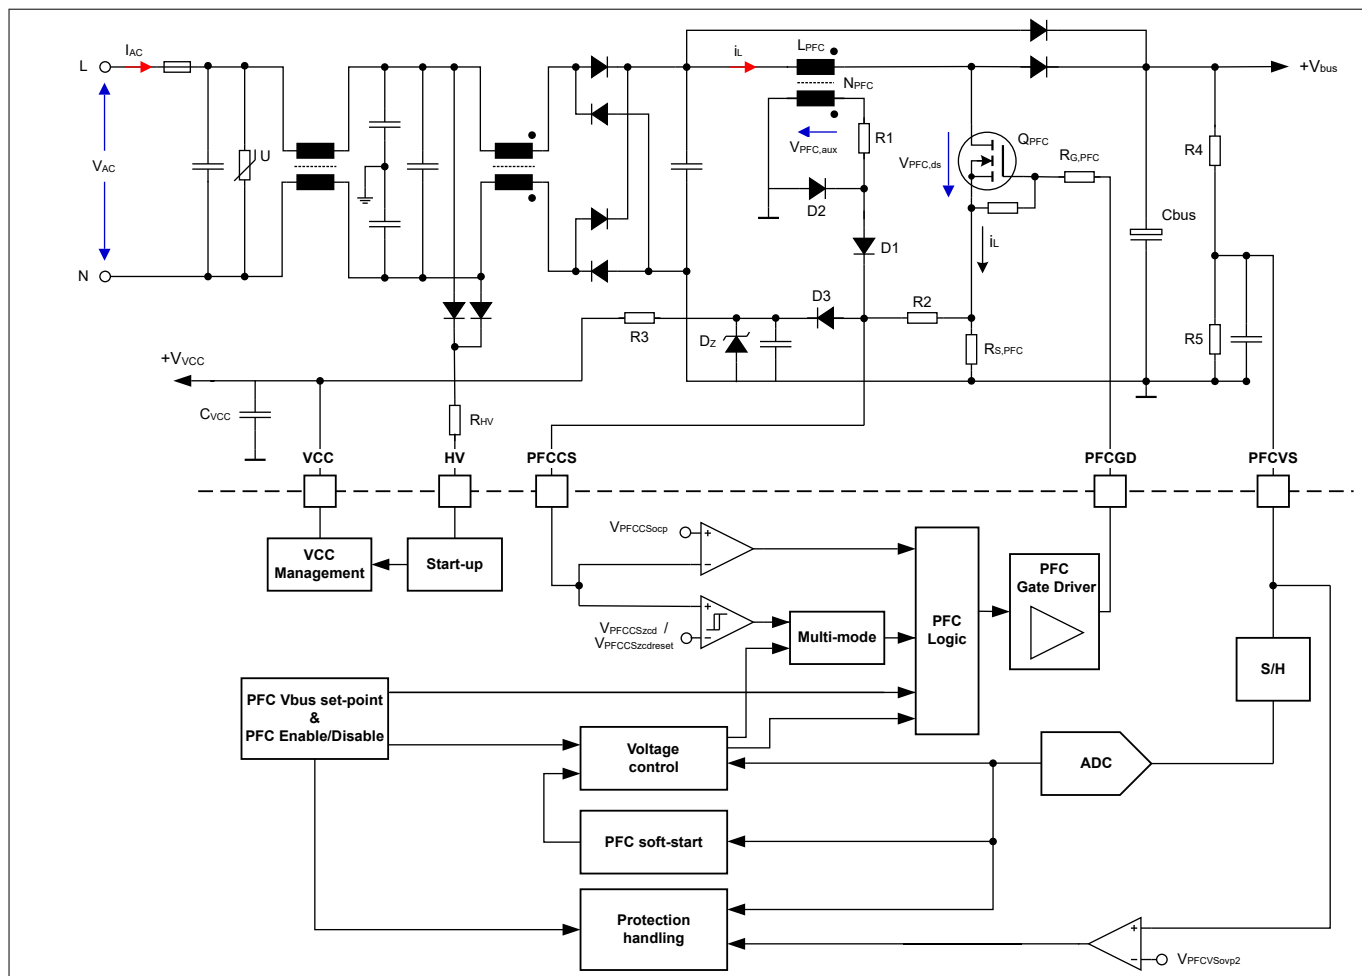

Figure 8 QRM-PFC circuit arrangement and associated PFC control
The PFC controller turns on and off the PFC gate driver PFCGD so that a desired bus voltage V_{bus} is maintained while the AC input current I_{AC} follows the instantaneous line input voltage V_{AC} resulting in high power factor and low harmonic content. The operation mode is based on quasi-resonant operation mode (QRM), thus critical conduction mode, but with valley switching and valley skipping. The oscillation of the switch voltage $V_{PFC,ds}$ after choke current demagnetization is detected via an integrated zero crossing detection (ZCD) mechanism. The ZCD-function is combined with a PFC over-current protection at pin PFCCS. Figure 8 shows the PFC circuit arrangement including the AC input stage and the PFC control part of the IC.
4.2.1 Combined current sense (CS) and zero crossing detection (ZCD) function
The PFC stage uses a combined current sense (CS) and zero crossing detection (ZCD) functionality at pin PFCCS. During the PFC gate driver on-time the pin acts as a current sense (CS), while during the gate driver off-time the pin acts as a zero-crossing-detector (ZCD) for valley switching. Please refer to Figure 8 for the related circuitry for ZCD and CS.